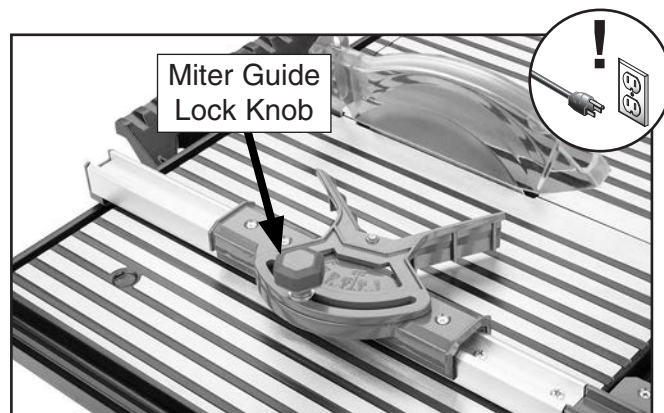

Figure 23. Miter guide lock knob location.
2. Loosen miter guide lock knob, adjust to desired miter angle, and tighten to secure (see **Figure 23**).